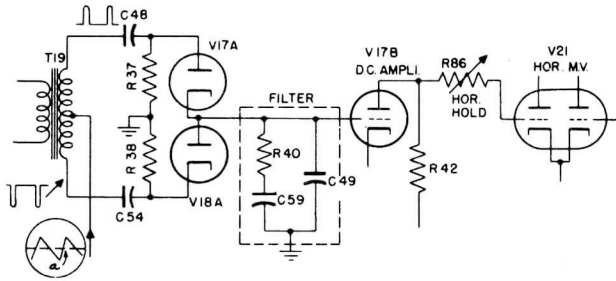

Fig. 6. Hor. Multivibrator and Sync
5. HORIZONTAL MULTIVIBRATOR AND AFC SYNC (SEE FIGURE 6)—The horizontal sawtooth oscillator makes use of a Type 6SN7GT tube, V21, in a conventional cathode-coupled multivibrator circuit. Instead of its frequency being controlled directly by the horizontal sync pulses, it is controlled by a d-c voltage on its controlling grid, the d-c voltage being a resultant of the phase error between the incoming sync signal and a sawtooth voltage derived from the output of the horizontal sweep amplifier. This voltage is called an automatic frequency control (AFC) voltage.
The AFC voltage is developed by the diode-connected triodes V17A and V18A by mixing the horizontal sync pulses at the secondary of transformer T19 with a sawtooth voltage waveform derived at the output of the sweep amplifier tube, V22, when the sync pulse occurs at the time "a" shown in the sawtooth waveform drawing in Figure 6, no voltage will be developed at the output of the filter. However, if the multivibrator runs faster or slower so that the pulse falls at a point other than at "a," a positive or negative voltage will appear at the filter, which will be amplified by the d-c amplifier V17B and then applied to the grid of the multivibrator. This change in d-c voltage on the grid of the multivibrator will cause it to speed up or slow down so as to cause the sawtooth wave to combine with the incoming sync pulses until the correction voltage becomes zero. With the filter consisting of R40, C59, and C49, the change is relatively slow in controlling the speed, permitting the equivalent of individual frame synchronization instead of each component line. This gives a picture characterized by greater detail than is possible where random noise triggers the directly synchronized sweep generator. The Horizontal Hold control, R86, in conjunction with the cathode tuned circuit C99 and L33, control the free-running speed of the multivibrator. They are adjusted near to the correct frequency during the time when no sync pulses are available.